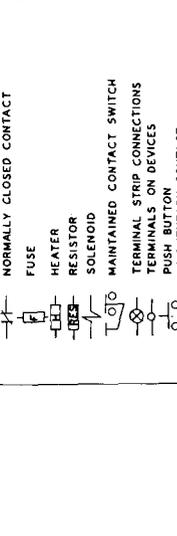

FIG. 4B EVAPORATOR FAN OR CHILLED WATER PUMP (NOTE 5)
5. EVAPORATOR FAN OR CHILLER WATER PUMP MUST BE INTERLOCKED IN CIRCUIT AS SHOWN. SEE FIG. 4B.